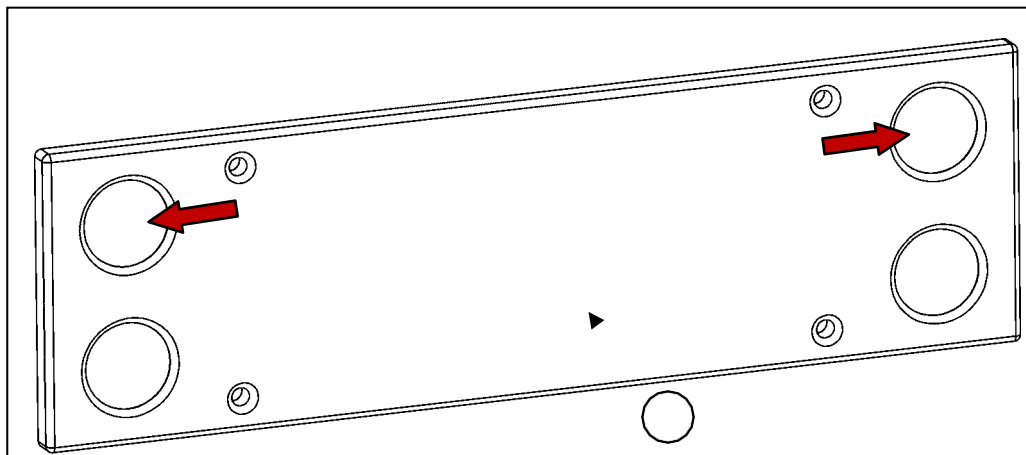

Figure 89
- On the control panel (a), press button 2 (top right) 3 times (see Fig. 89).